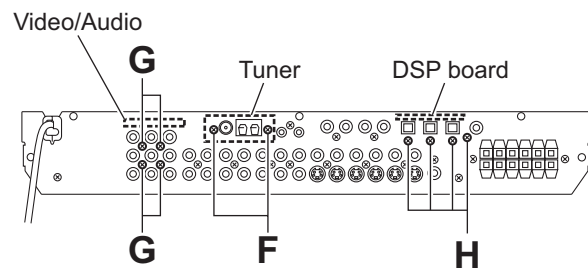

Fig.8
- (2) From the back side of the main body, remove the two screws **F** attaching the tuner. (See Fig.8.)
- (3) Take out the tuner from the main body.
- (2) From the back side of the main body, remove the four screws **G** attaching the video/audio board. (See Fig.8.)
3.6 Removing the DSP board (See Figs.8 and 9)
- (1) From the back side of the main body, remove the four screws **H** attaching the DSP board. (See Fig.8.)